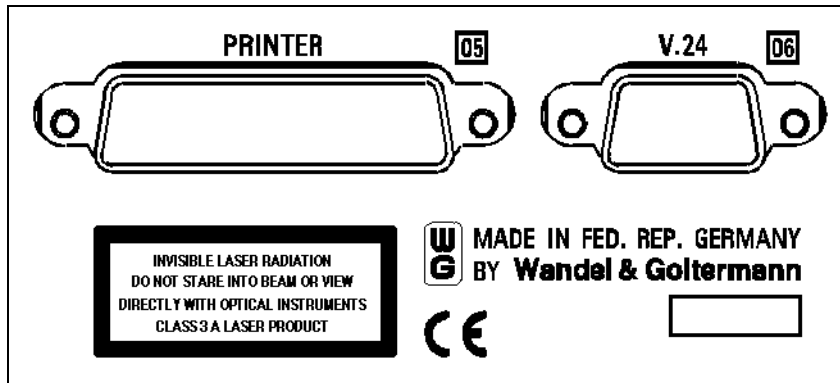

Fig. M-8 Laser safety warning label on the front panel of the ANT-20/ANT-20E
9. Affix the laser safety warning label for a Class 3A laser product (see Fig. M-8).
2. Remove the pre-assembled cover plate by undoing the six screws (C).
4. Bolt the back panel of the interface module to the chassis with the eight screws (D).
5. Bolt the interface module to the chassis pan with the seven countersunk screws (B).
6. Fit the cover plate using the six screws (C).
8. Bolt on the lower case shell with the four screws (A).
9. Affix the laser safety label for Class 3A (see Fig. M-8).
We recommend that the laser safety warning label is affixed to the front panel of the ANT-20/ANT-20E below socket [05] (see Fig. M-8).